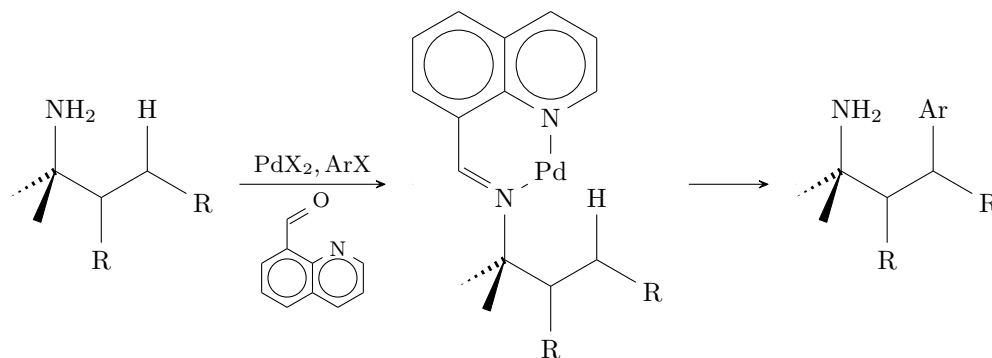

Figure 6.7: Dong's directed C-H activation.
- This is nicely demonstrated by Guangbin Dong's example, as seen in Figure 6.7.